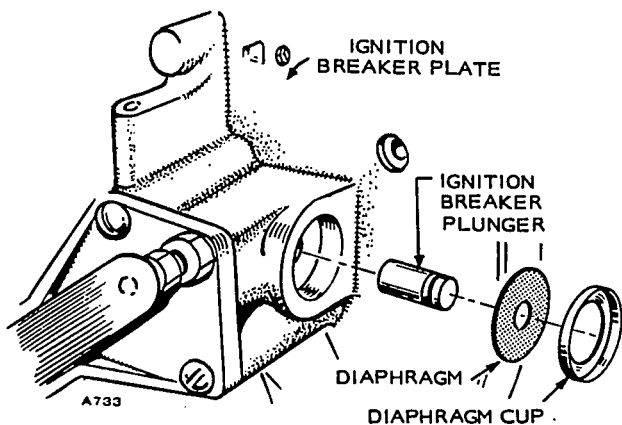

FIGURE 40. BREAKER PLATE ASSEMBLY
4. Install breaker plate. Install ignition plunger and diaphragm and diagram cup (Figure 40).